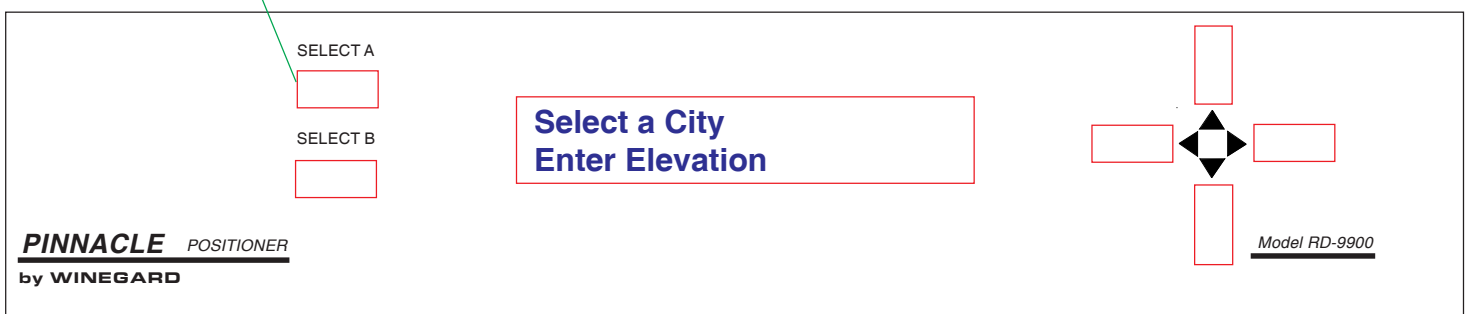

Figure 2
5. Press [SELECT A] **Select a City**, Figure 2. There is a list of 125 cities in the continental United States stored in the positioner memory. See Programmed City Locations, page 28.